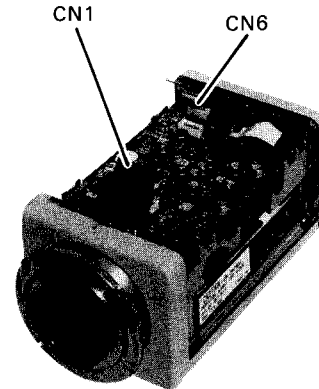

Fig. 2-3
- Referring to Fig. 2-3, disconnect the connectors CN1 and CN6 from the Drive Board and remove one screw that secure the Drive Board and Digital Board, and remove the Drive Board and Digital Board.